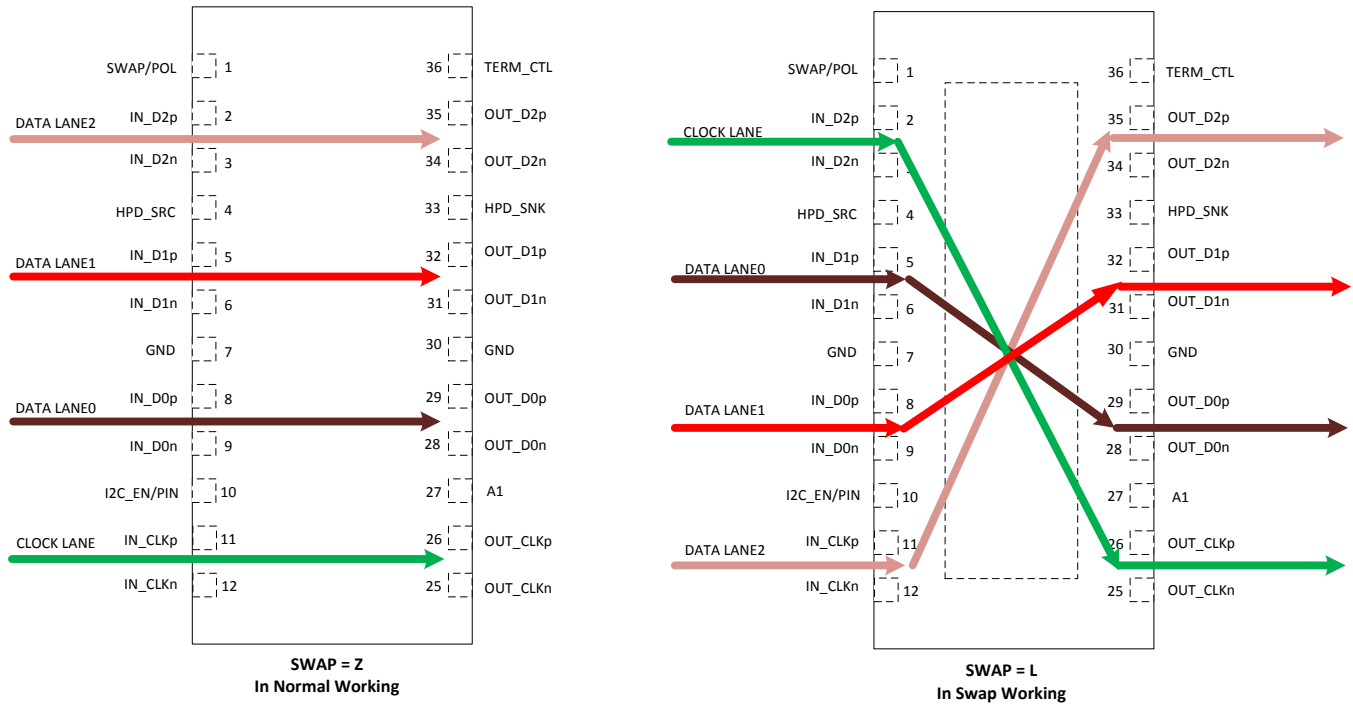
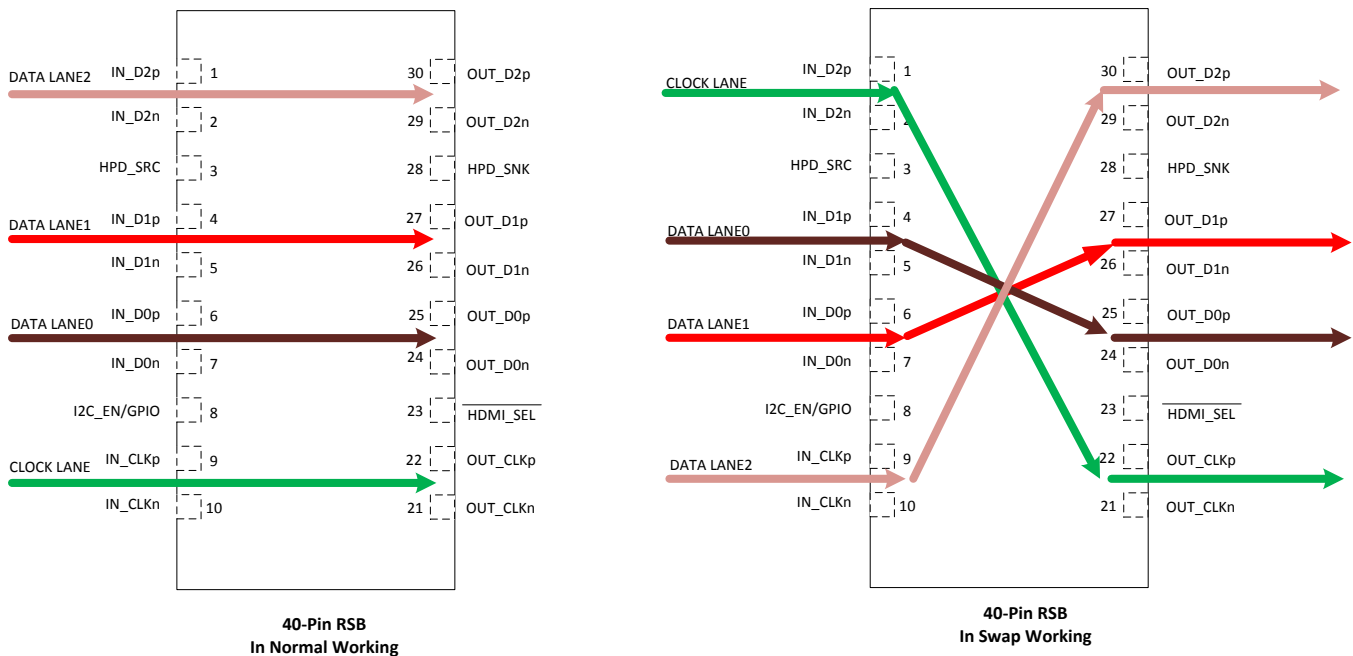

Figure 24. SNx5DP159 Swap Function for 48 Pins
Figure 25. SNx5DP159 Swap Function for 40 Pins
(1) The output lanes never change. Only the input lanes change. See Figure 24 and Figure 25.